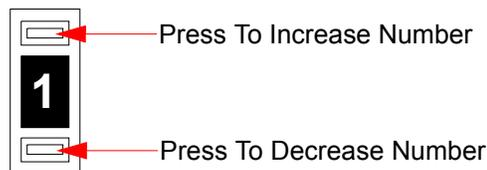

Figure 4-2: Network Address Switch for Cryopumps
1. Set the address switch for each On-Board *IS* Cryopump on channel A to the appropriate network address as shown in Figure 4-1 on page 4-3, with the address switch in Figure 4-2.
2. Set the address switch for each On-Board *IS* Cryopump on channel B to the appropriate network address as shown in Figure 4-1 on page 4-3, with the address switch in Figure 4-2.
Set the address switch for each compressor on channel C to the appropriate network address as shown in Figure 4-1 on page 4-3, with the address switch in Figure 4-2.